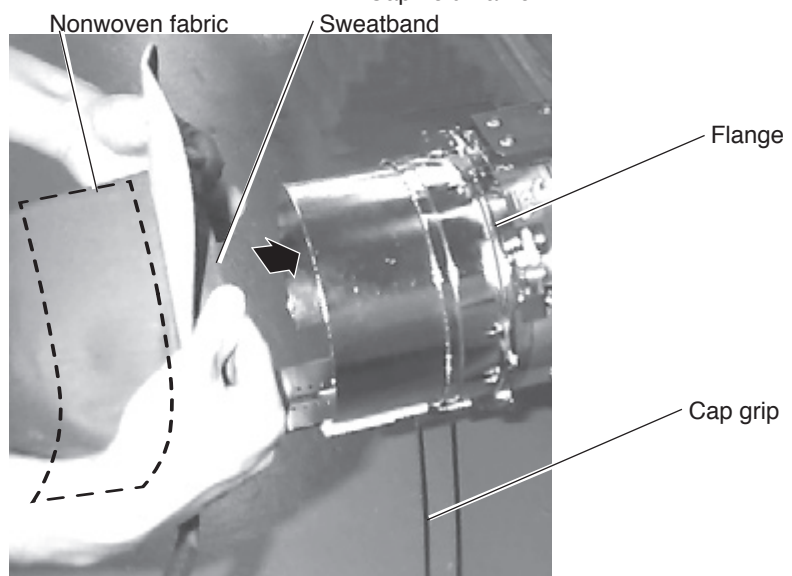

Fig. 2
3. As shown in Fig. 2, remove cap grip and keep open to the left.